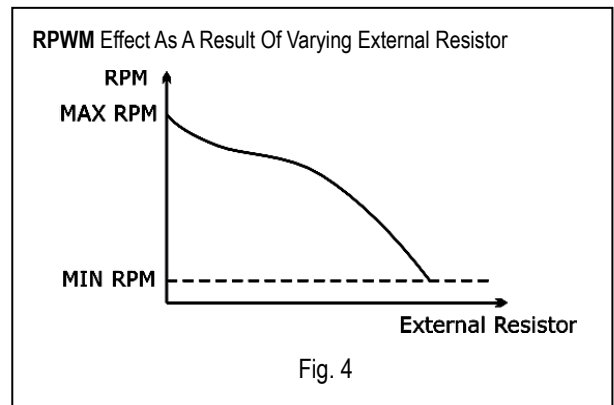

Fig. 4
- **RPWM:** by the use of external variable resistor. (See Fig 4)